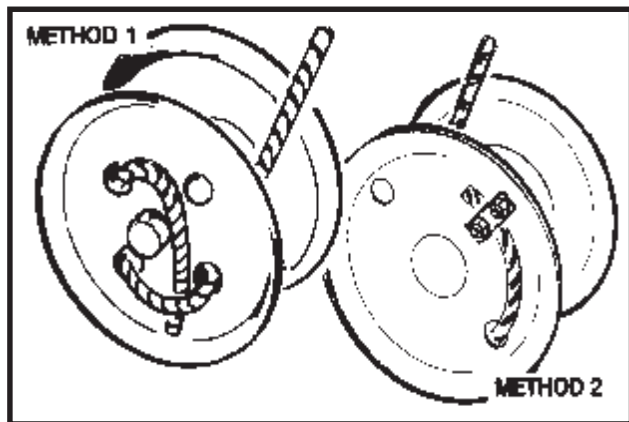

Figure No. 16
1. Attach cable to winch using one of the two methods shown, depending on winch supplied (see **Figure No. 16**). If Method 2 is used, the nut must be on the outside of the drum to prevent damaging cable. Have about one inch of cable extending past the clamp.